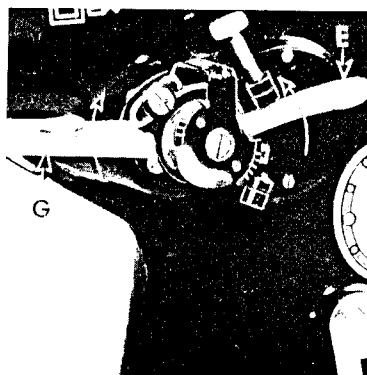

Fig. 34
**SETTINGS:** Bight control lever **E** at **highest** point and position lever **G** at **highest** point, as shown in Fig. 34.